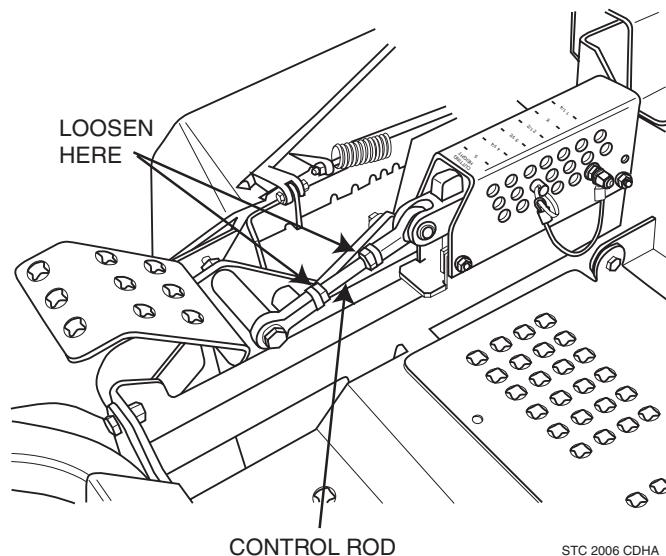
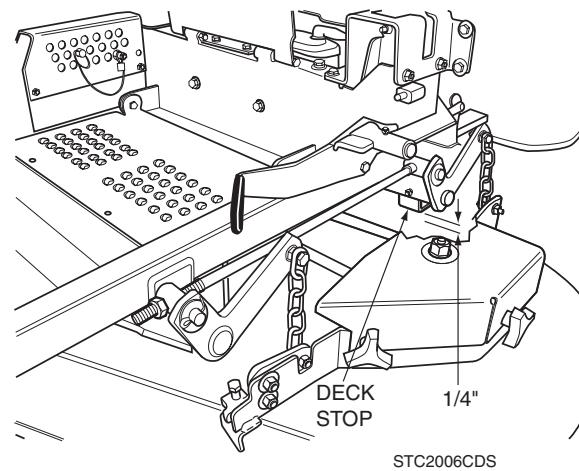

Figure 6-6. Cutter Deck Height Adjustment
Figure 6-7. Cutter Deck Stop
1. Place the cutter deck in the transport position. Loosen the jam nuts on both ends of the deck height control rod. See Figure 6-6.
2. Turn the control rod (See Figure 6-6) until there is a $1/4"$ space between the rear deck stop and the top of the cutter deck. See Figure 6-7. Tighten the jam nuts on the control rod.
4. Check the measurement from the floor to the cutter blade tip. If the measurement is not at 3", an adjustment can be made using the deck height control rod. See Figure 6-6.